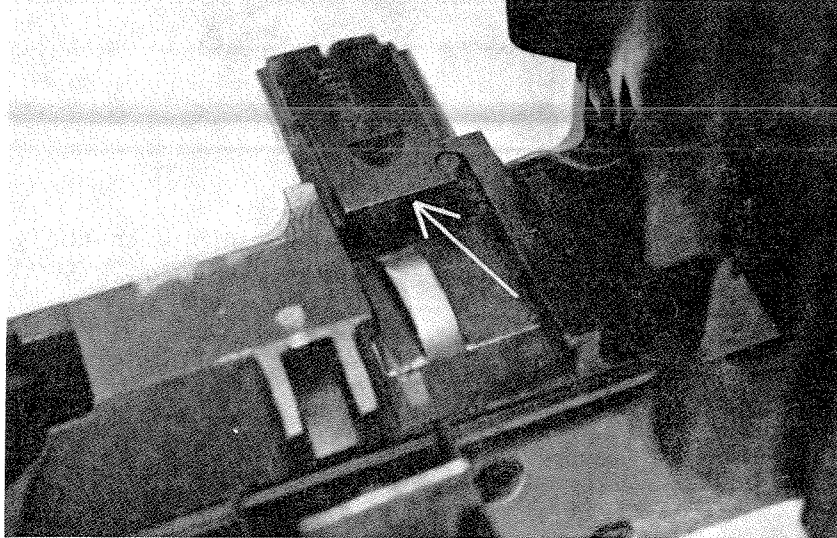

Figure 5-1. Barrel locking latch assembly in the fully open position to left of the receiver.
- a. Insure that the barrel locking latch assembly is in the fully open position (fig. 5-1) to the left of the receiver.